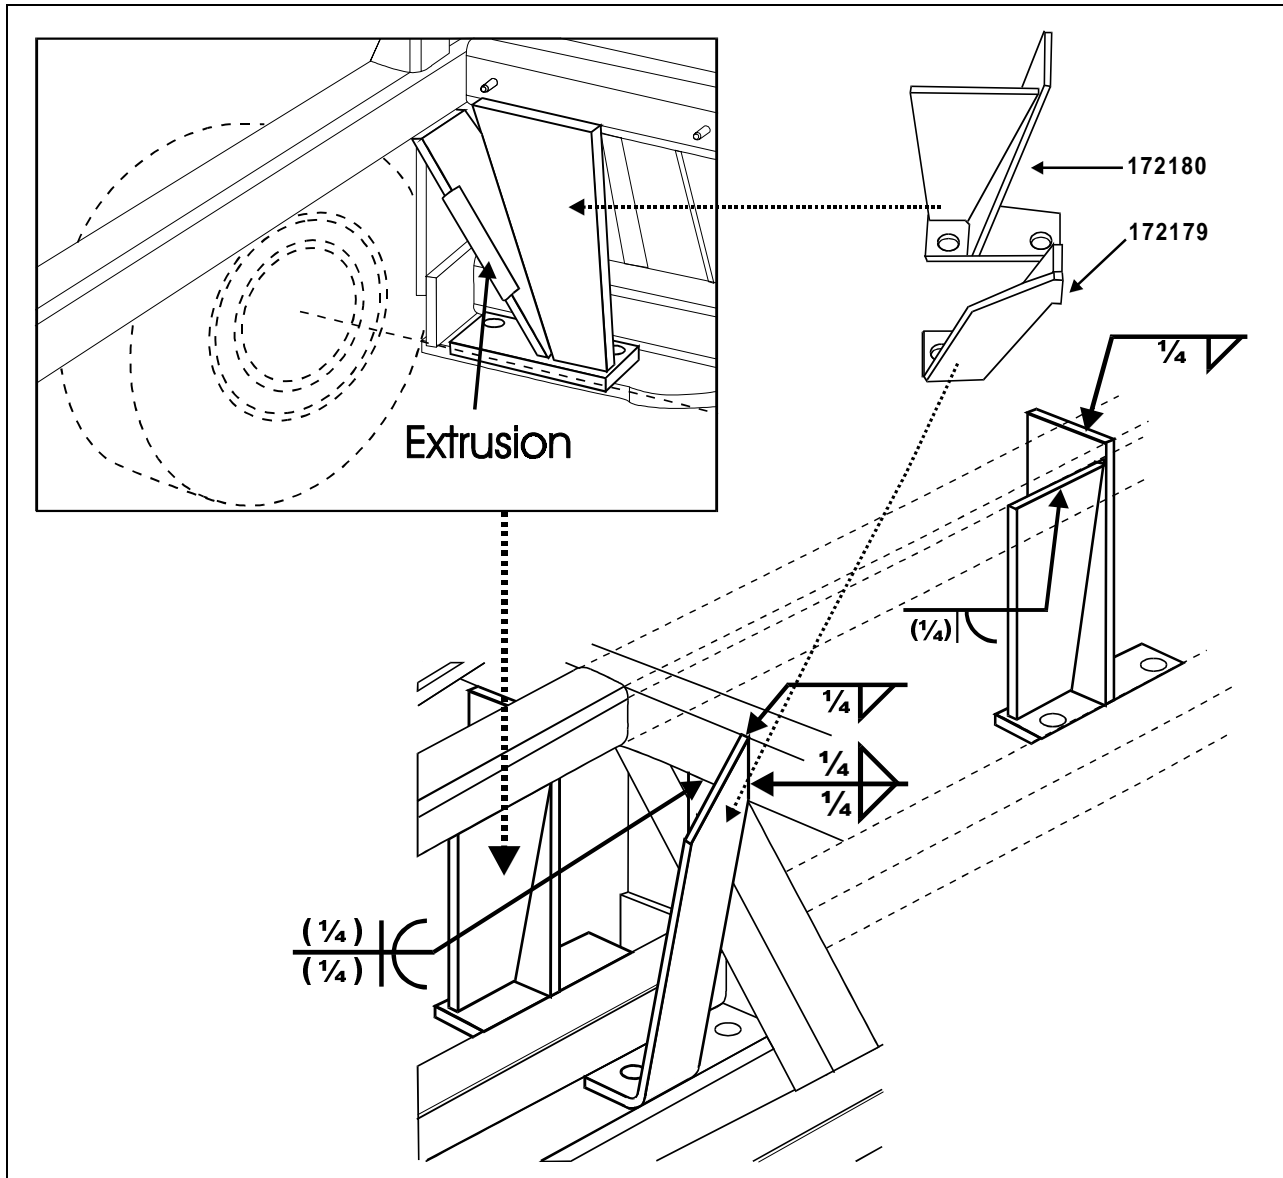

FIGURE 1: LOCATION OF THE BRACKETS ON STRUCTURE LOCATED BEHIND FRONT LEFT WHEEL
Note: The brackets are installed on the structure of the independent suspension just behind the front left wheel (Fig. 1).
3. Weld bracket as per figure 1.
5. Weld bracket as per figure 1.